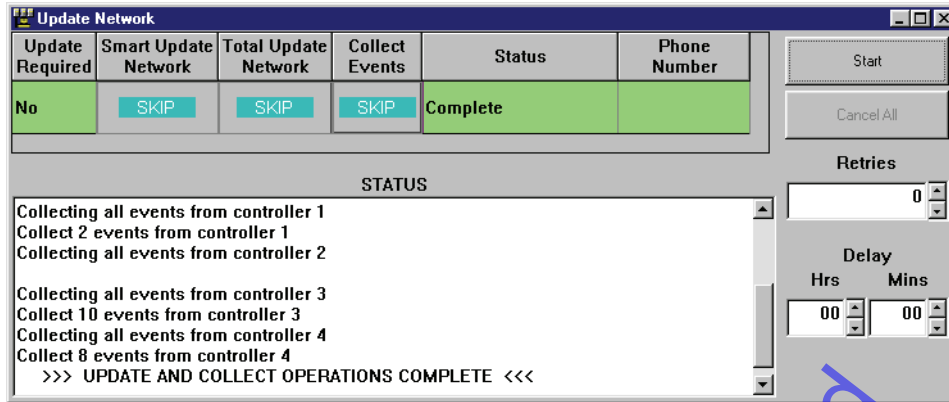

Figure 5-41: Successful Collection of Events from Network
4. Once the connection is made, the progress of the event collection may be viewed through the Status windows. The status windows will indicate when the event collection is complete (see Figure 5-41 on page 39 of this section).